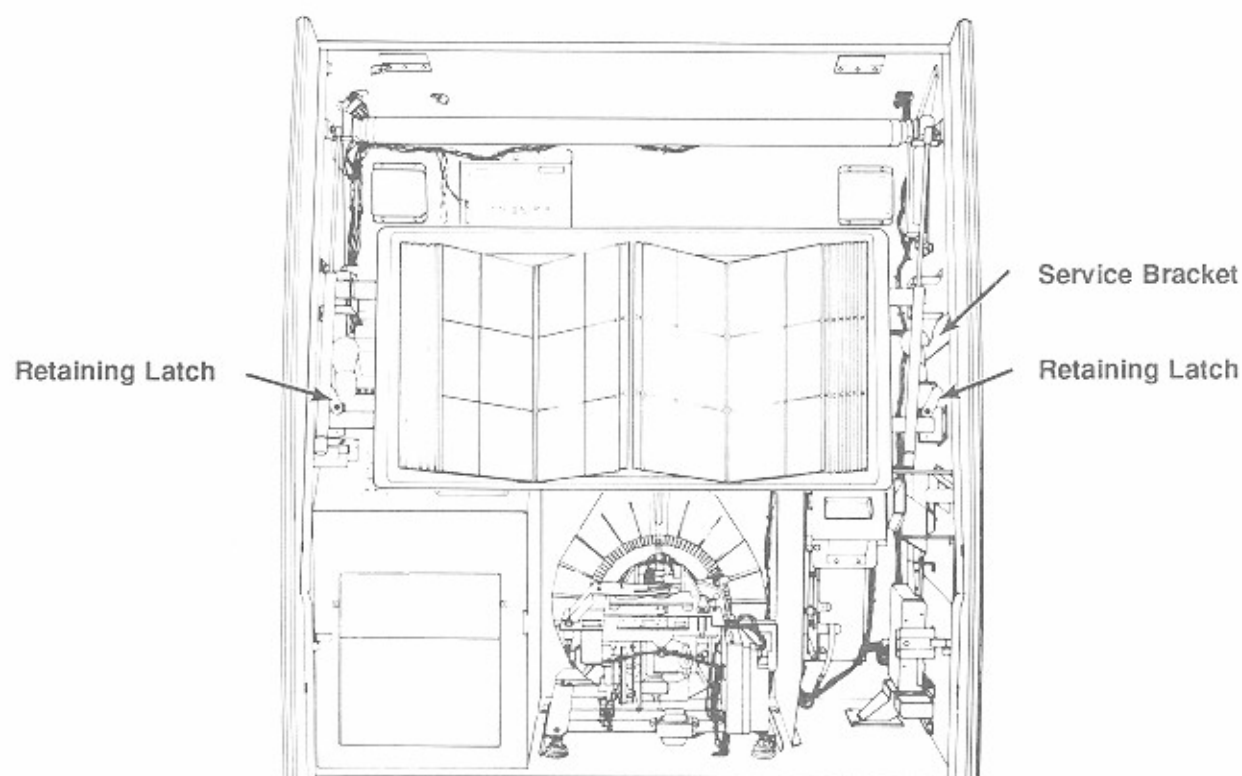

Figure 2-1. Raising The Title Rack
2. Rotate the two retaining latches on the ends of the title rack lower support bar (see figure 2-1) away from the support bar and lift the bottom of the title rack up and toward you with your left hand.